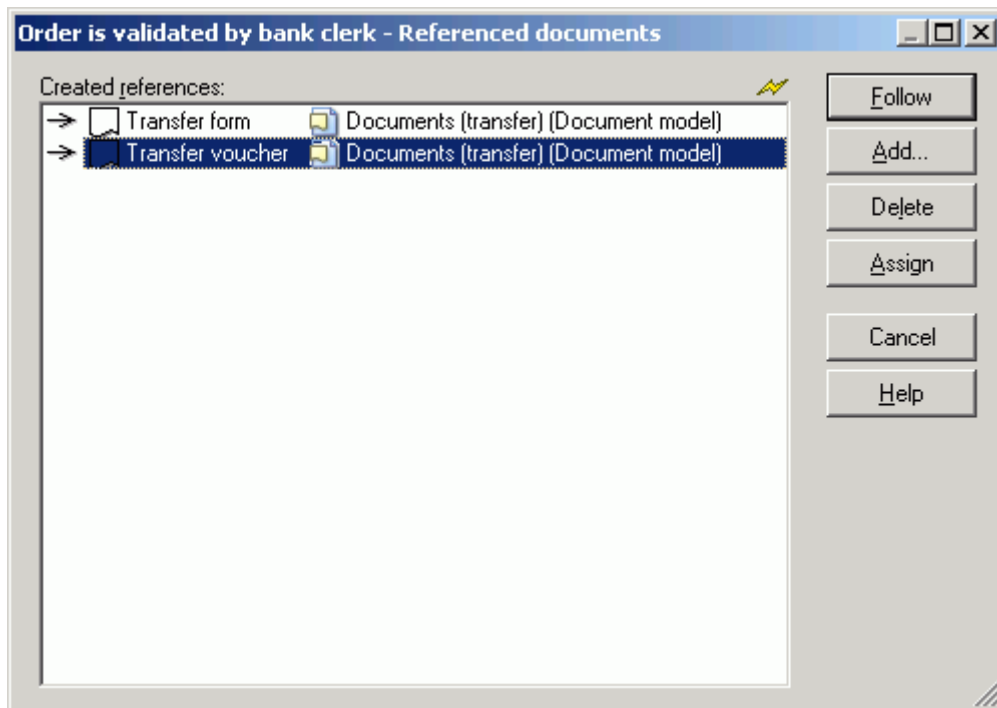

Figure 45: Editing an object reference attribute
**References to objects** in the list "Created references" (see fig. 45) will show the following information: